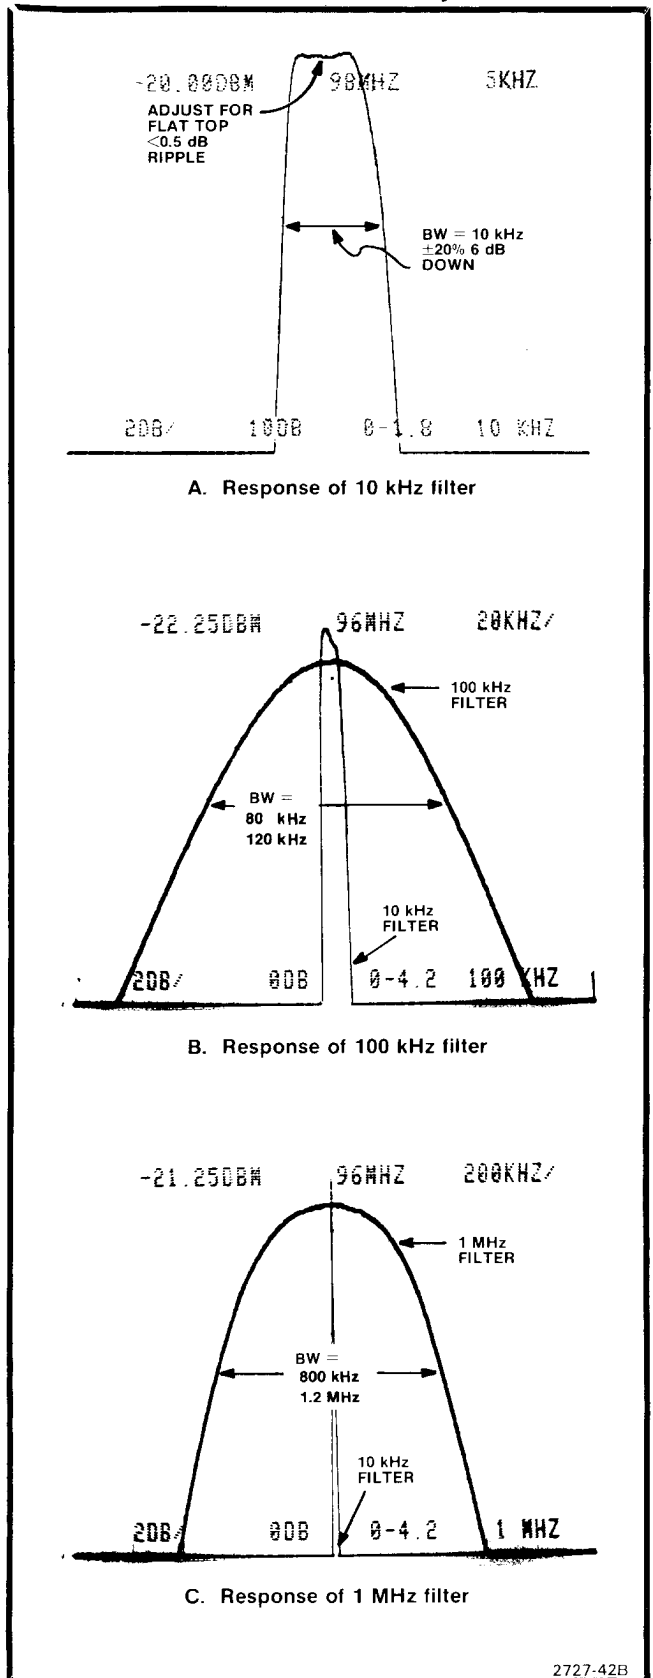

Fig. 3-45. Typical response of 10 kHz, 100 kHz and 1 MHz bandwidth filters.
s. Check the waveshape, bandwidth, and centering of all filters. Center the 100 kHz and 1 MHz filter response around the 10 kHz filter. If necessary, make only fine or minor adjustments. Figure 3-45 shows typical response shapes.